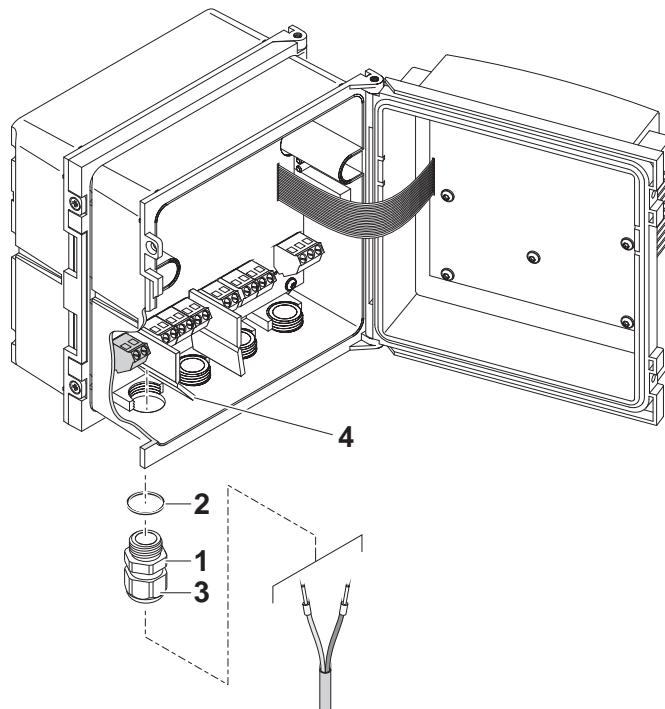

Fig. 3-29 Inserting the 24V AC/DC line
| 5 | Screw a cable gland (pos. 1 in Fig. 3-29) with sealing ring (pos. 2) into the enclosure below the 24 V AC/DC connection. |
- 9 | Tighten the coupling ring (pos. 3 in Fig. 3-29).